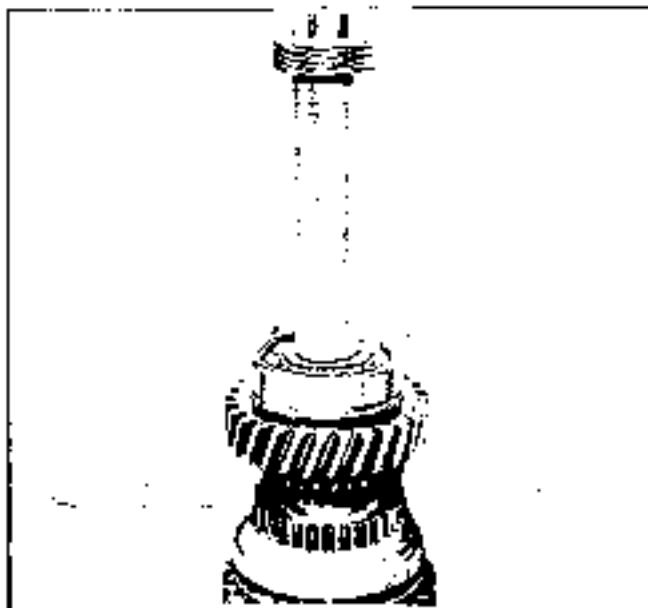

Fig. 7B-16 Removing Rear Bearing
3. Turn the rear of the mainshaft upward and install reverse gear, thrust washer, spring washer and rear bearing (Fig. 7B-16).